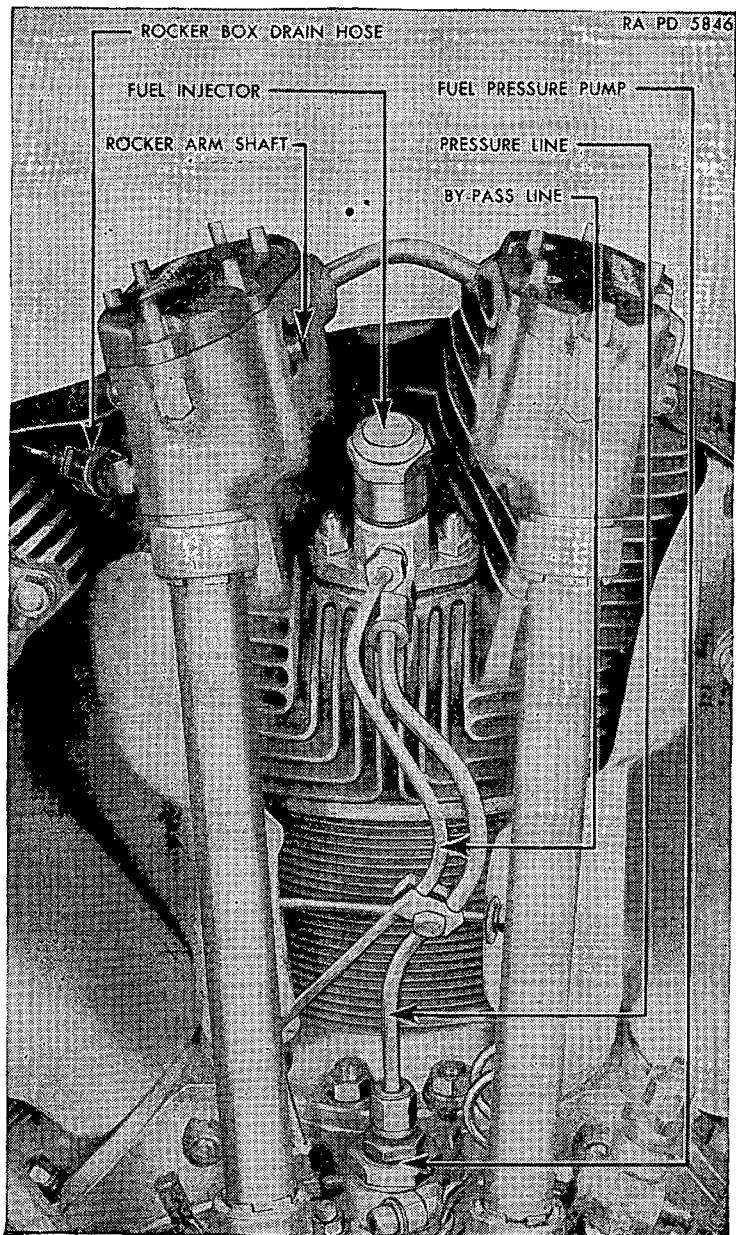
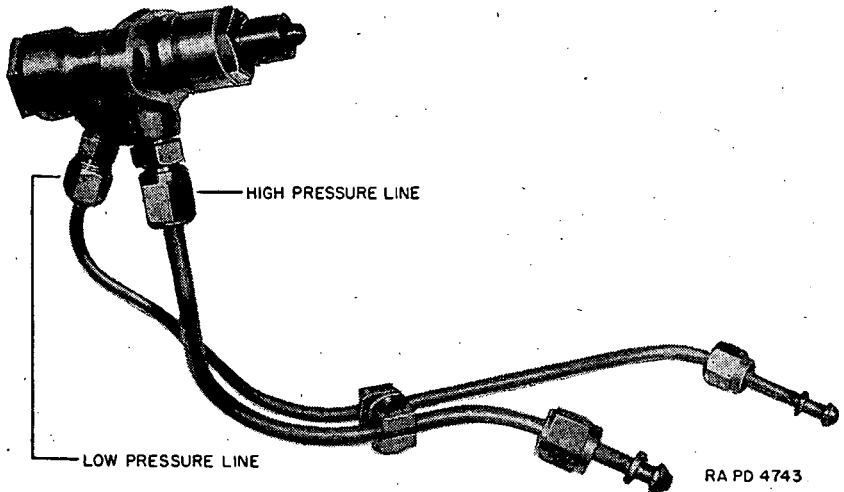

FIGURE 40.—Rear view of No. 1 cylinder, Guiberson T-1020.
FIGURE 42.—Fuel injector valve, Guiberson engine.
67. Fuel pressure pump (fig 40).—Each cylinder has an independent high pressure pump connected to the fuel injector by means of thick wall high pressure tubing (fig. 42). The pumps are mounted on the rear half of the crankcase in back of their respective cylinders. In operation these pumps produce enough pressure to force fuel through the fuel injector valves, and also control the quantity of fuel going into the combustion chambers. Replacement of a fuel pressure pump will not be attempted by the using arm personnel.
68. Fuel injector (fig 42).—*a. Description.*—On each cylinder head a fuel injector atomizes the fuel sprayed into the combustion chamber.
b. Replacement.—(1) To remove the fuel injector, use the following procedure:
- (2) To replace pump, proceed in reverse order.
71. Cartridge starter (fig. 42).—*a. Description.*—Cartridge engine starters derive their power for operation from the gas pressure developed when a cartridge is fired. A fresh cartridge is required for each start. The complete starter and breech assemblies consist of—